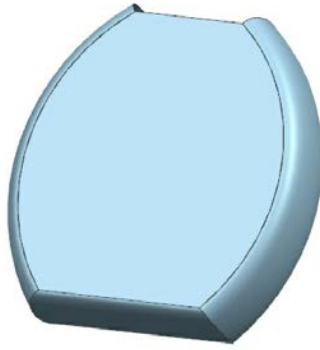

Figure 11-50 Resulting bridge surface
3. Choose the **OK** button; the surface created using the **Bridge** tool is shown in Figure 11-50.